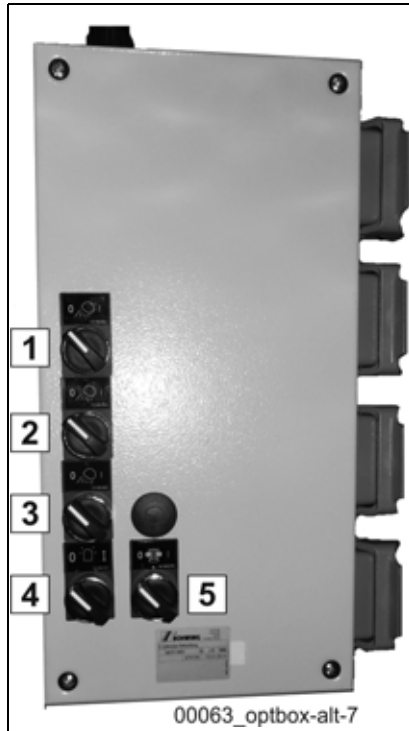

Fig. 582 E-option box on a truck-mounted concrete pump
0 The selector switch (4) (**Fig. 582**) is located in a separate housing next to the switch cabinet with the machine controls.